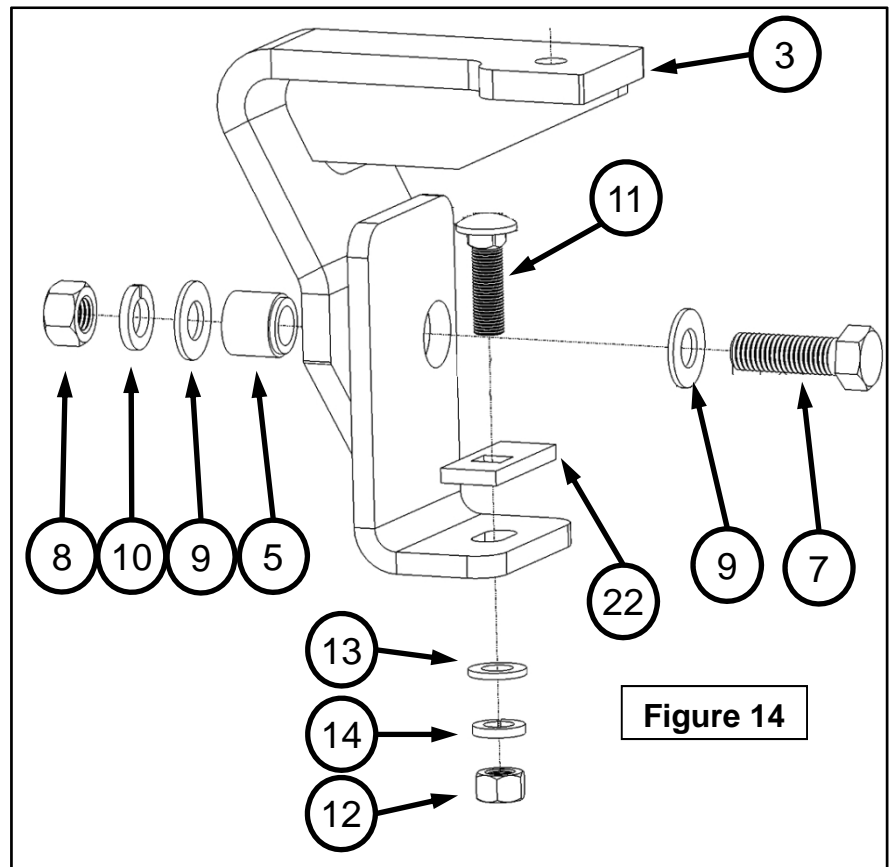

Figure 14
22. Install driver's side rear bracket (item #3) as shown in Figure 14. Use the 5/8" hardware provided (items # 5, 7, 8, 9 & 10). Align 5/8" tapped hole with the 11/16" hole drill in Step 18. Loosely tighten.